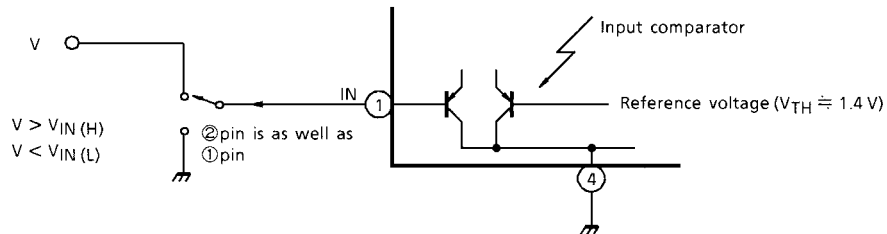

Fig. 1
(1) Input circuit
Input circuit is shown in Fig.1. It's a "Low active" type voltage comparator that's one input connect to Input terminal (pin (1), or (2)) and the other to built-in temperature compensated voltage reference ($V_{TH} = 1.4\text{ V Typ.}$)